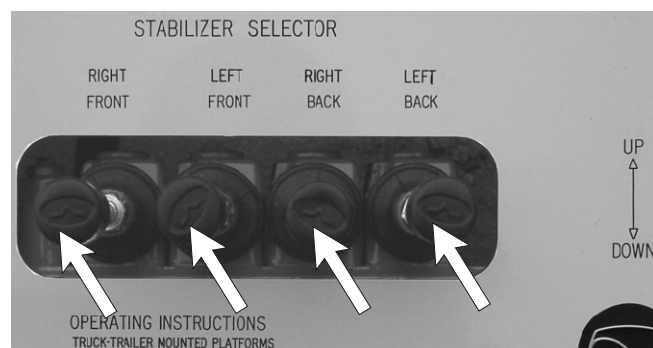

Figure 7.6 - Stabiliser Control Valves
3. **Stabiliser Control valves:** Moving the levers UP raises the stabilisers whilst pushing the levers DOWN lowers the stabilisers (see Figure 7.6).